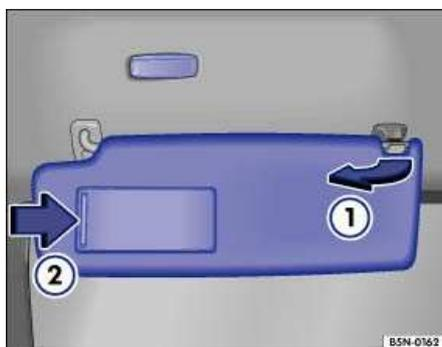

Fig. 43 Sun visor on the driver's side.
The sun visor for either the driver or the front passenger can be pulled out of its retaining clip in the center of the vehicle (1) and turned toward the door ⇒ Fig. 43. You can also slide the sun visor back and forth to your convenience.